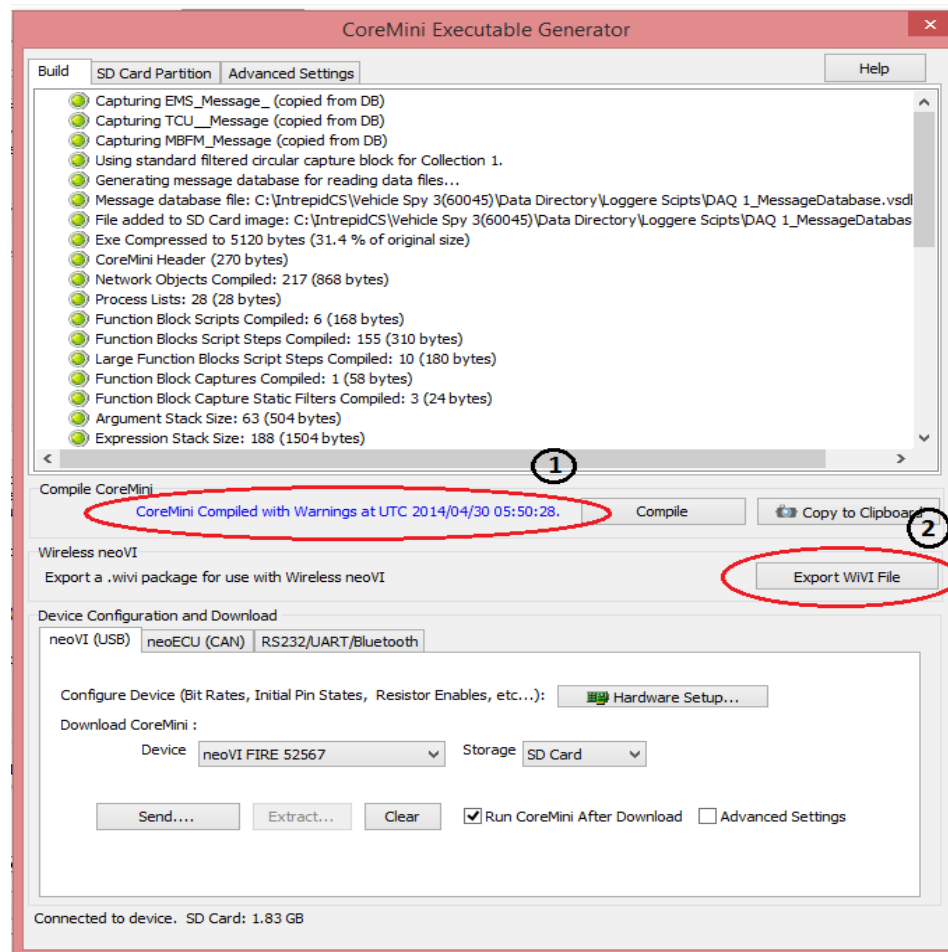

Figure 3: Settings for compiled Wivi file
- Make sure that coremini compiled without error (Figure 3 (1)).
- Click on 'Export wivi file' option (Figure 3 (2)). It will export wivi file then Save file in destination folder